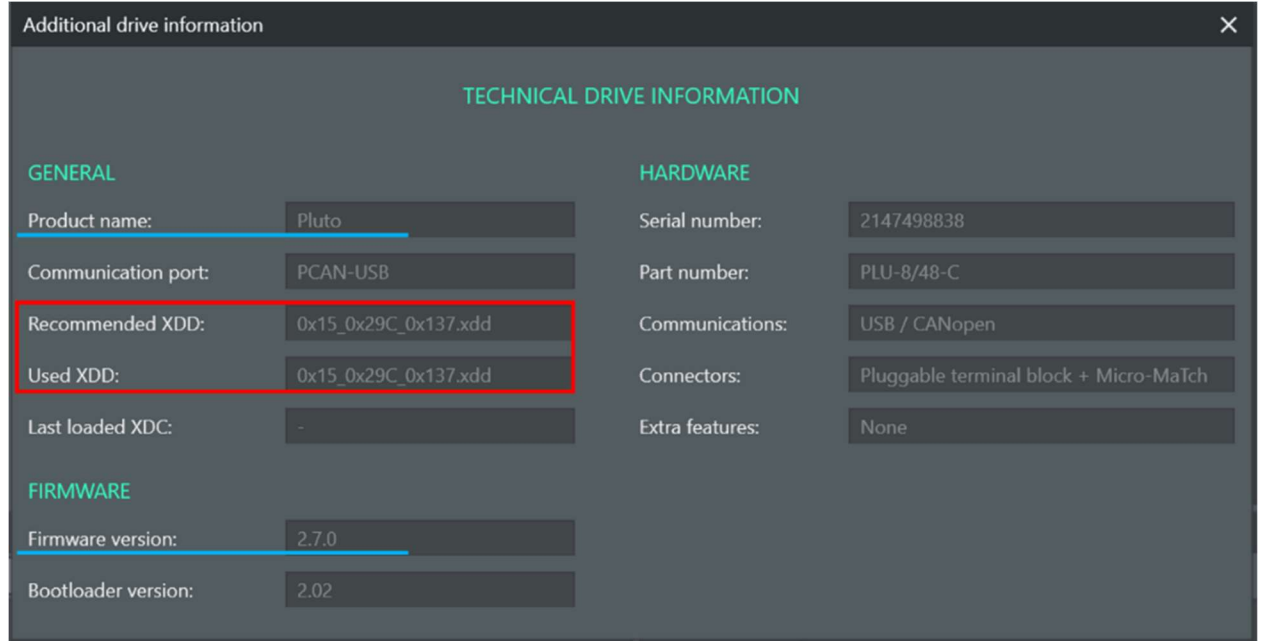

Fig. 78: Additional Drive Information window.
- 5) The pop-up window will list the recommended XDD and used XDD. In the example shown in **Fig. 78**, the listed XDDs do not match which requires a manual update of the XDD.